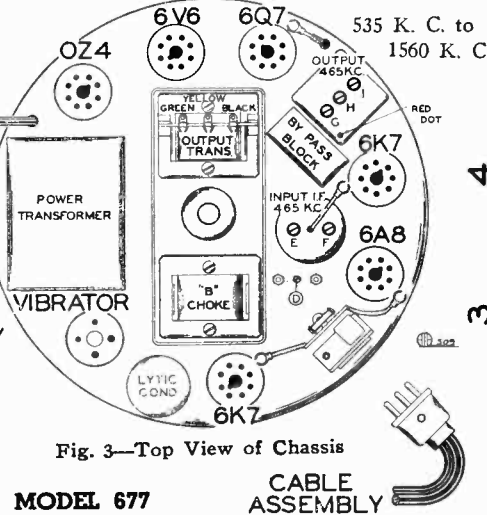

Fig. 3—Top View of Chassis
2. Adjust trimmers "G" and "H" of output I.F. transformer for maximum gain, (See Fig. 3, top view).
4. Re-set test oscillator to 600 K.C. and rotate Remote Tuner Unit dial to 600 K. C. Adjust shunt oscillator adjustment "D", rotating dial to and fro at the same time adjusting shunt oscillator for maximum gain. This adjustment is accessible from the top of the radio chassis, (See Fig. 3, top view).